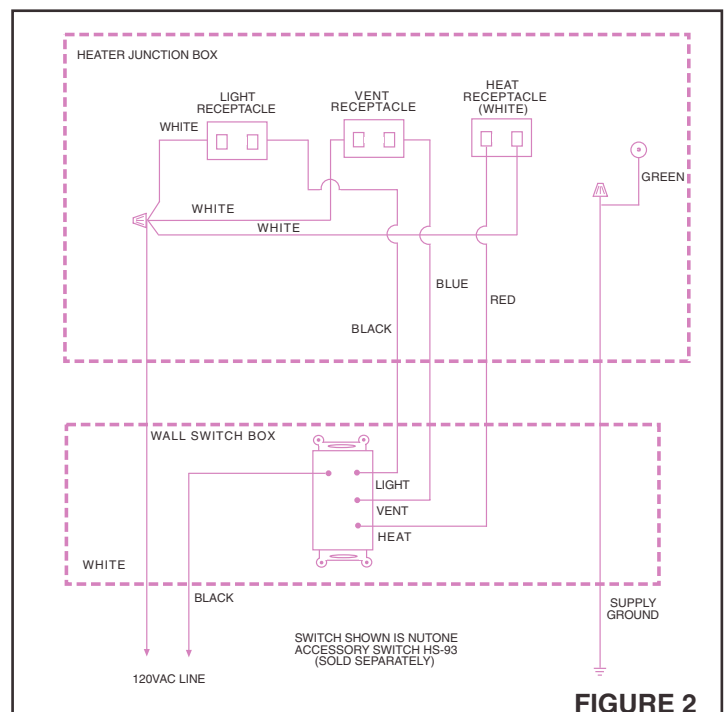

FIGURE 2
3. **Refer to Figure 2.** Connect white wires in junction box to white (neutral) supply wire. Connect the blue wire in the junction box to the supply wire from the vent switch. Connect the black wire to the supply wire from the light switch. Connect the red wire in the junction box to the supply wire from the heat switch. Connect green ground lead in the junction box to the supply ground.